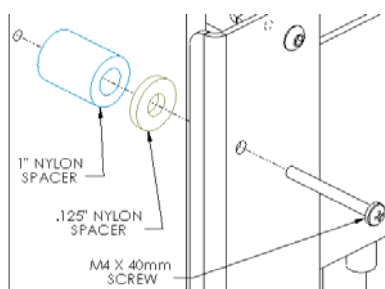
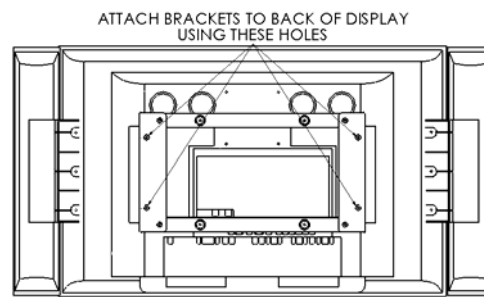
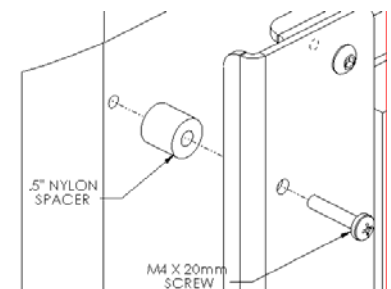

Figure 8
Figure 9
Figure 10
5. **Bracket Installation for screens having a tuner or protrusion on back:** Stack both 1" and .125" nylon spacers over mounting holes of screen and attach brackets to back of display using the M4 x 40mm screws (see Figure 8 & Figure 9). Do not over tighten screws.
6. **Bracket Installation for screens having a flat back:** Place .5" nylon spacers over mounting holes and attach brackets to back of display using the M4 x 20mm screws (see Figure 9 & Figure 10). Do not over tighten screws.